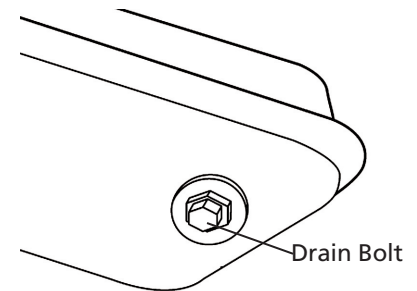

Figure 9 – Drain Bolt Removal ELECTRICAL OUTLET
1. Remove drain nut from rear bottom side of fuel tank by unscrewing nut and drain. See Figure 9.